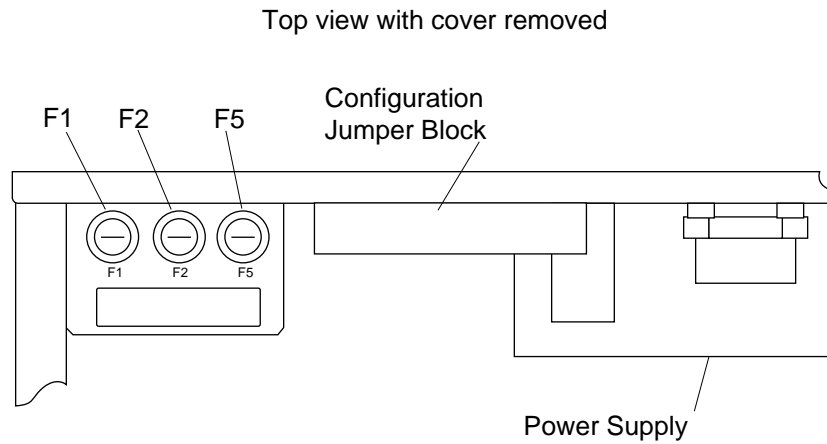

Figure 4-3. Internal Fuse Locations
5. Change the two internal fuses F1 and F2 from the 200-240V to the 100-120V value; see fuse information in Table 4-5 and on the label near the fuses – see Figure 4-3.
The two fuses (F3 and F4) at the power entry module on the front panel are for the incoming AC power lines. There are three fuses (F1, F2, and F5) inside the back section of the chassis, at the left side (looking from the front) near the top (see Figure 4-3). See the table below for ratings.